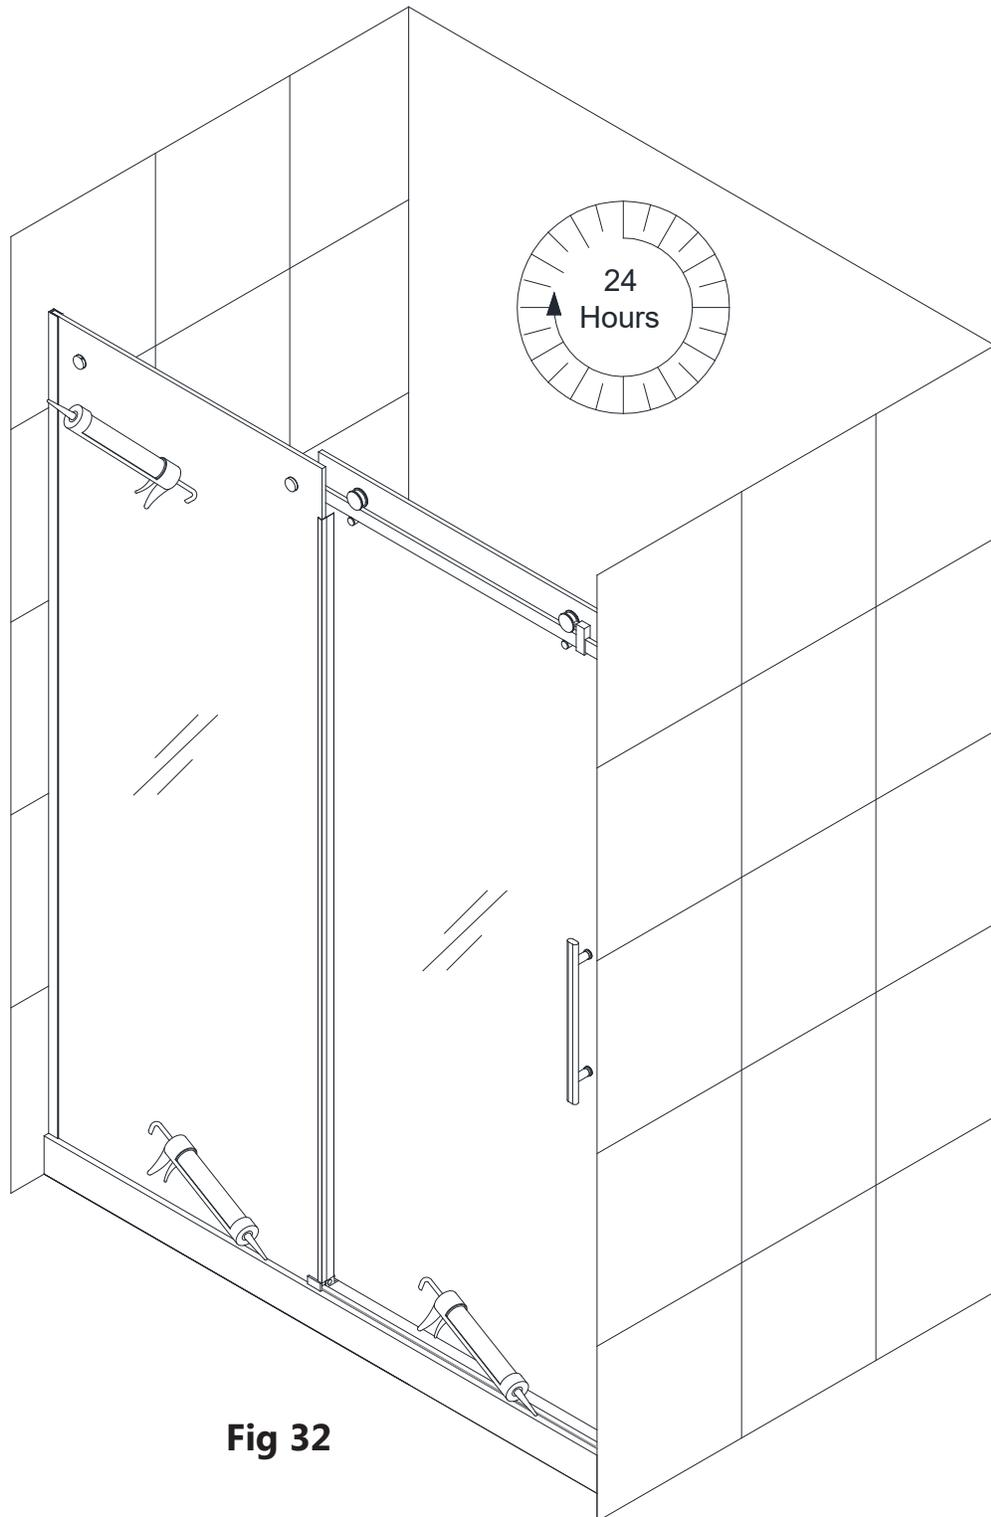

Fig 32
32. Apply a good quality mildew-resistant silicone along the connection of the stationary glass with the walls and the threshold. **(Fig 32)**